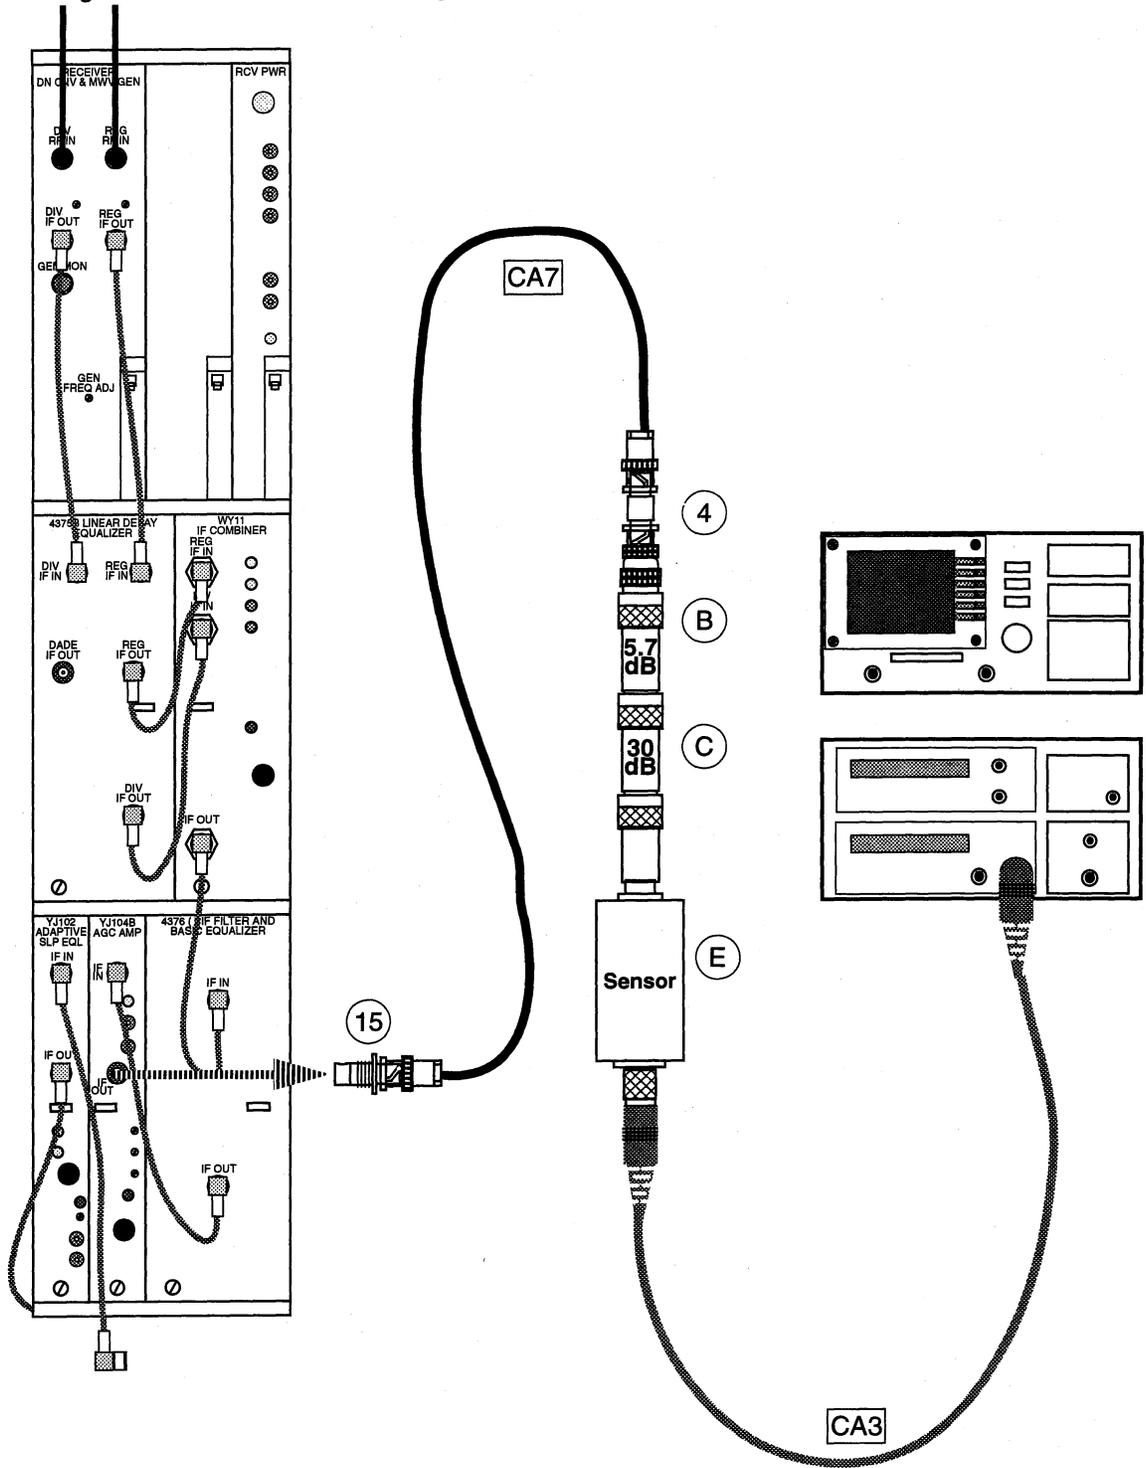

Figure 8. IF AGC Amplifier IF OUT Level (ANT DIV)
- Connect the power meter to the IF OUT jack as shown in Figure 8.